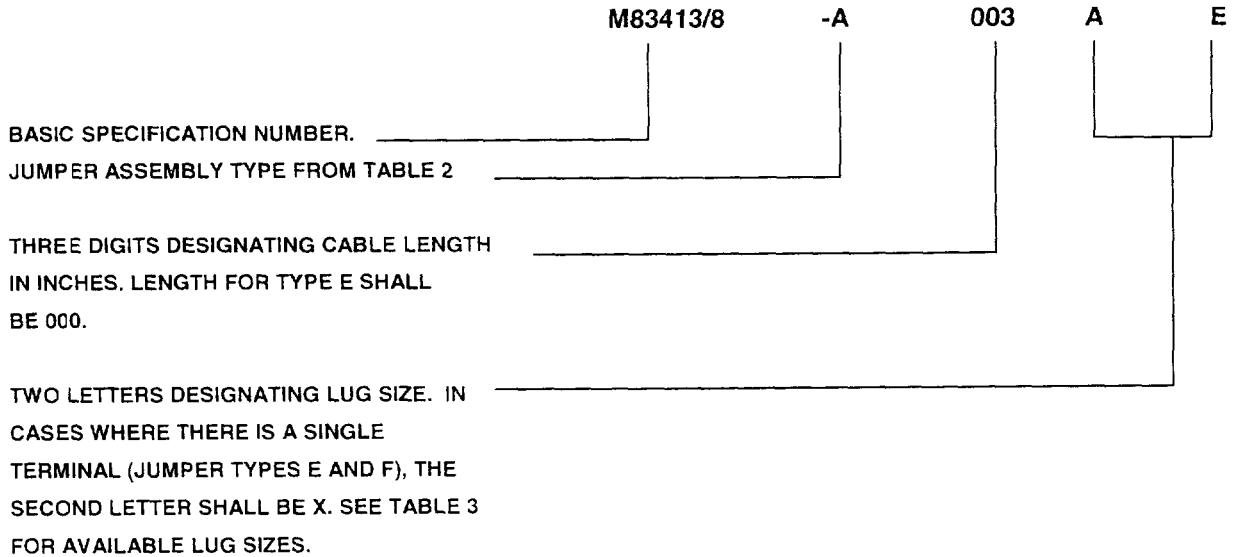

Figure 9. Part Number Breakdown
56. **PROCUREMENT.** Jumpers may be obtained through normal supply channels using the part number (Figure 9)